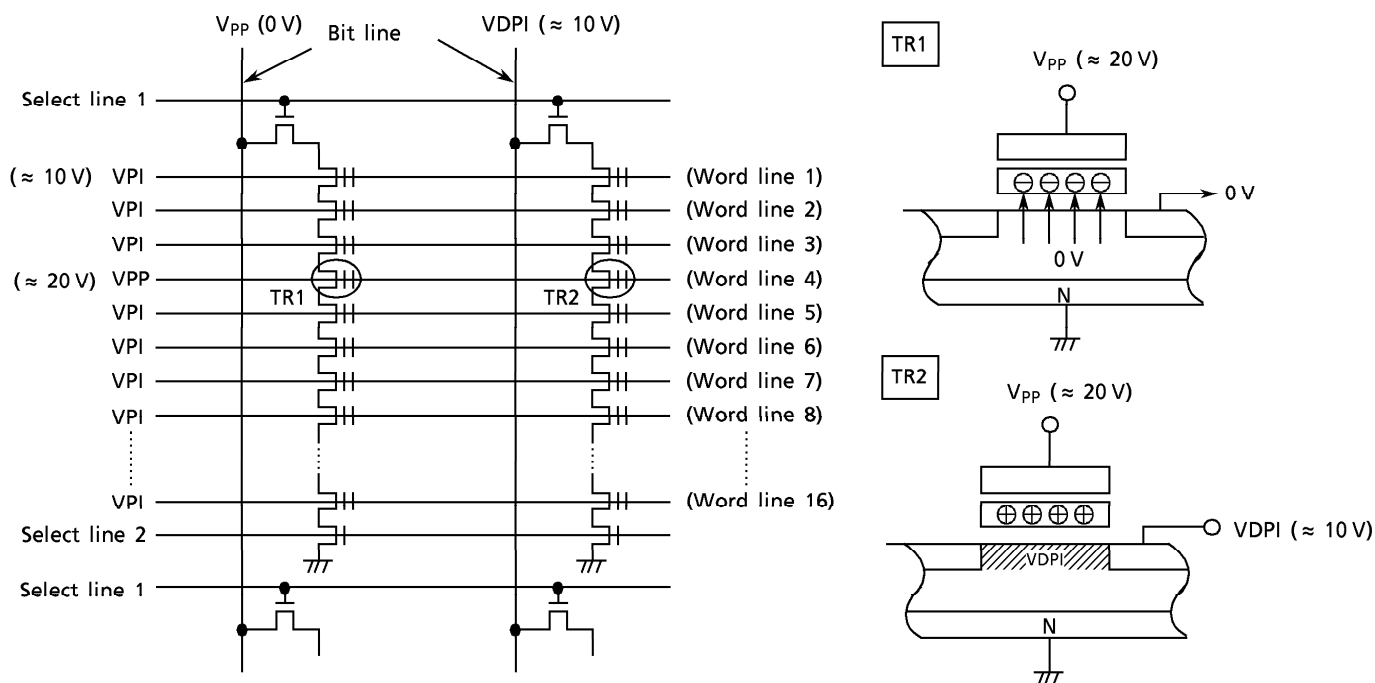

Figure 2. TC58A040 Program Device Physics
Figure 2 shows the NAND memory cell level details of the programming mechanism. The Program operation is used to write "0" data into an erased memory cell ("1" data cell) using a tunneling mechanism. An example Program operation to program "0" data into TR1 and "1" data into TR2 is as follows:
- (1) A high level is applied to Select line 1 and a low level is applied to Select line 2 so that the device is connected to the Bit line and disconnected from the ground line.
- (2) V_{pp} (to 20 V) is applied to the selected word line and an inhibit voltage of V_{PI} (≈ 10 V) is applied to the unselected word lines.
- (3) 0 volts is applied to the bit line tied to cell transistor TR1 and the inhibit voltage V_{DPI} (≈ 10 V) is applied to the bit line tied to TR2.
- (4) V_{pp} is applied between the control gate and the channel in TR1, as shown in Figure 2, which causes electrons to be injected from the channel to the floating gate by a tunneling.
- (5) The injected electrons are captured in the floating gate (surrounded by an oxide layer) and will remain, even after power is cut off, until they are removed by an Erase operation.
- (6) Although 20 volts is applied to the control gate of TR2, the voltage difference between the control gate and the channel is only 10 V because the voltage of the channel is 10 V. Therefore, tunneling does not take place (i.e. the electron is not injected into the floating gate.)
- (7) Tunneling does not take place in the unselected pages because of the 10 V (V_{PI}) applied to the unselected word lines which makes the voltage difference between the control gate and channel only 10 volts.